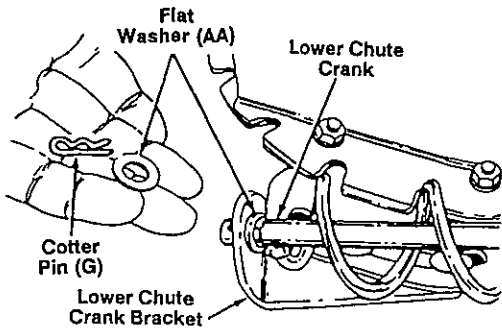

FIGURE 8
- Loosen hex nuts on the lower chute crank bracket. See figure 8.